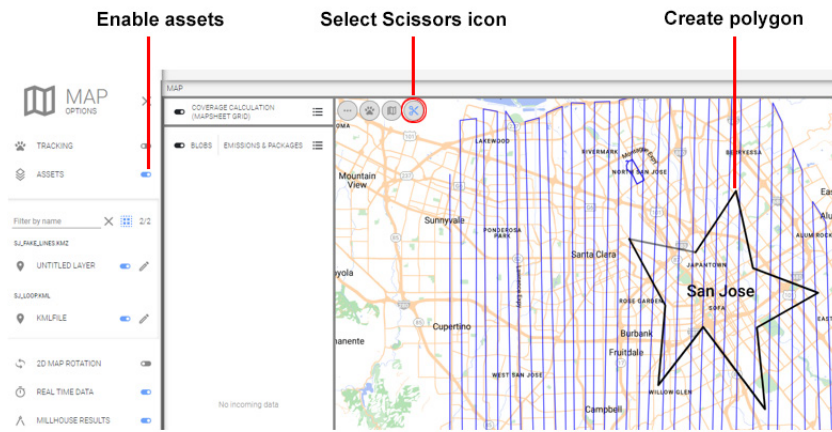

Figure 91 Map Screen Scissors Icon
- 2 Select the **Scissors** icon on the *Map* screen to activate the lasso (see Figure 91).